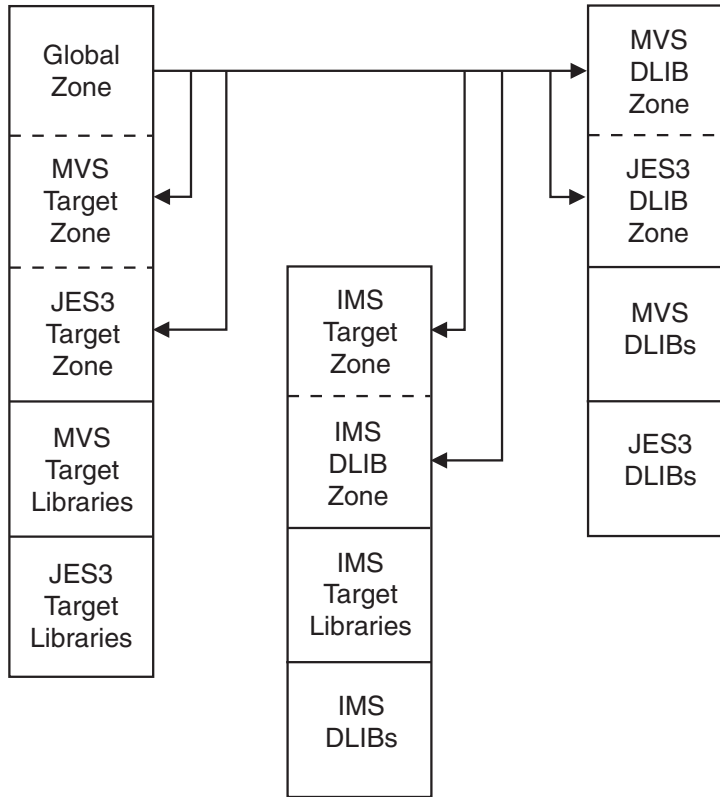

Figure 28. Using a Master CSI
*Example 3: Using a Master CSI and Multiple CSIs:* In Figure 28 on page 66, one global zone is defined for the entire system in a master CSI, and separate CSIs are allocated for the JES3 and IMS subsystems on the packs where the subsystem libraries reside. This CSI structure provides the advantages of a common control point (as in Example 2) and keeps the SMP/E control information physically associated with the libraries it describes. This is useful when you dump packs for backup.